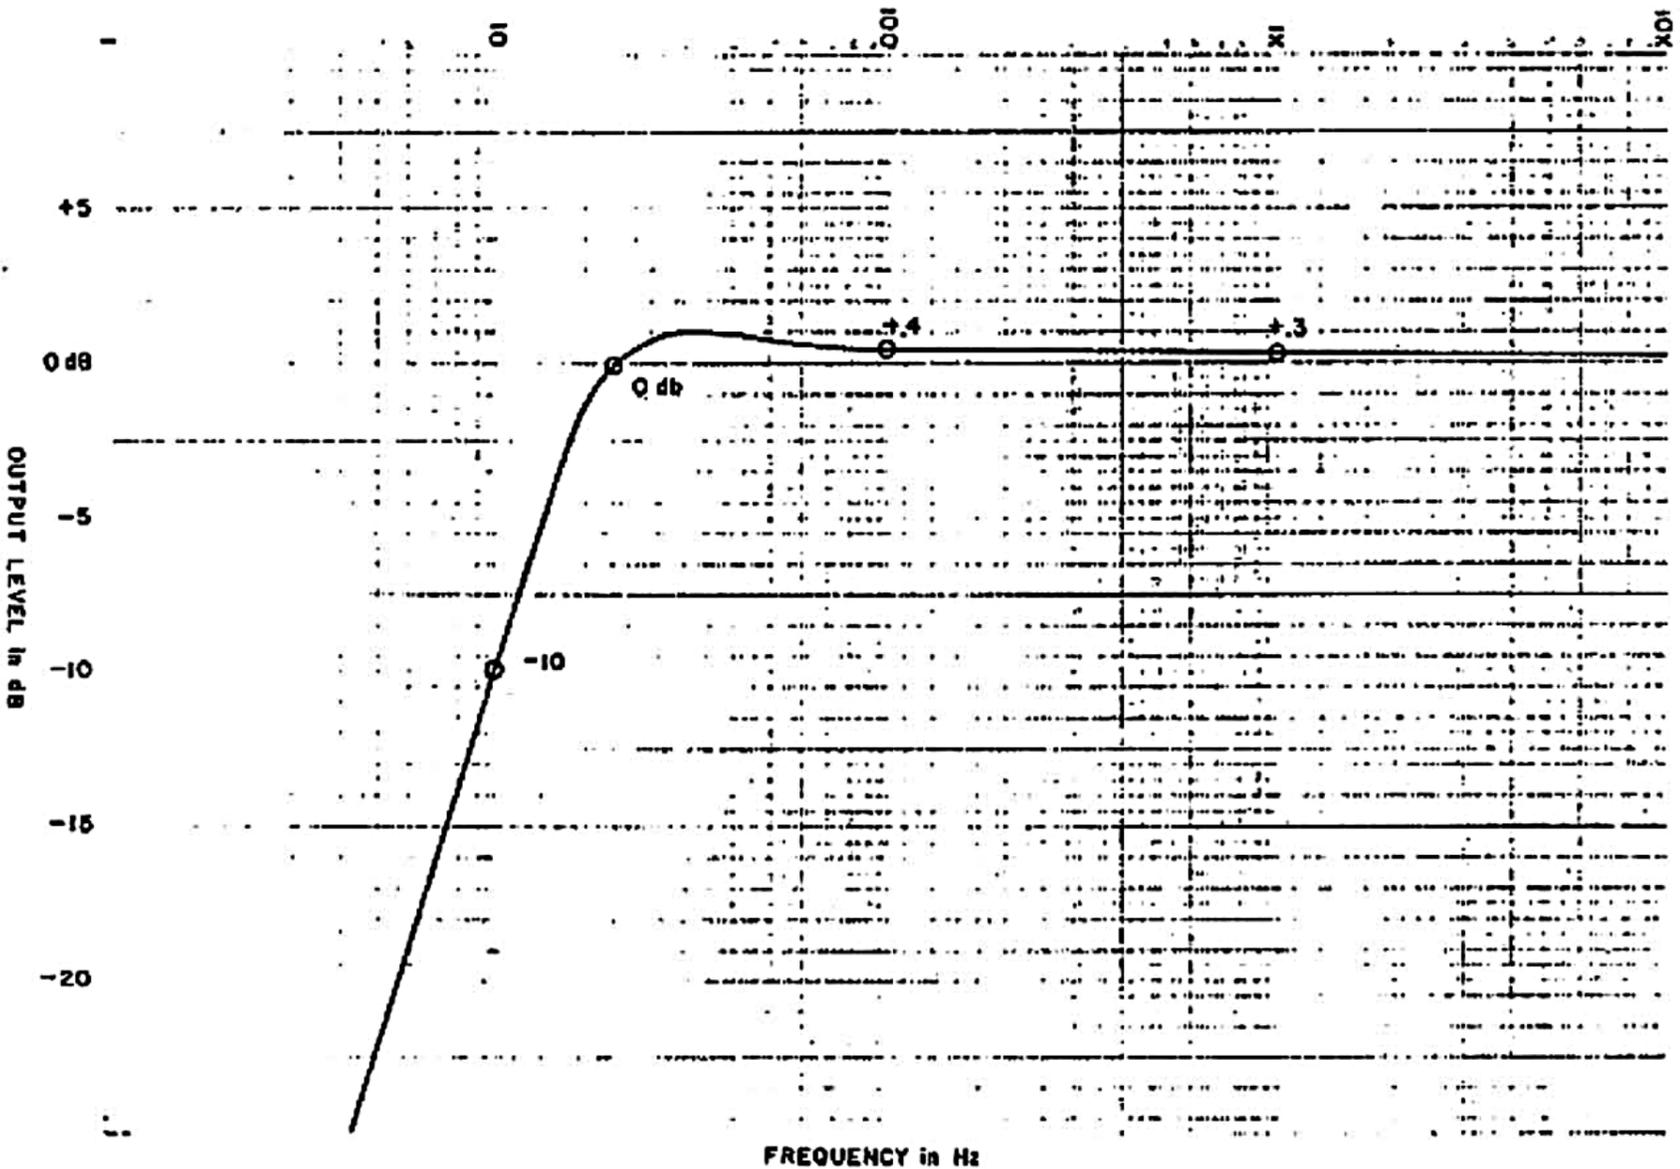

Figure 6-1. Infrasonic Filter Response
- C) Referring to Figure 6-1 and Table 6-1 below, verify FREQUENCY RESPONSE at each of the circled test points. Acceptable tolerance is  $\pm 0.5$ dB. Table 1 lists the acceptable ranges.